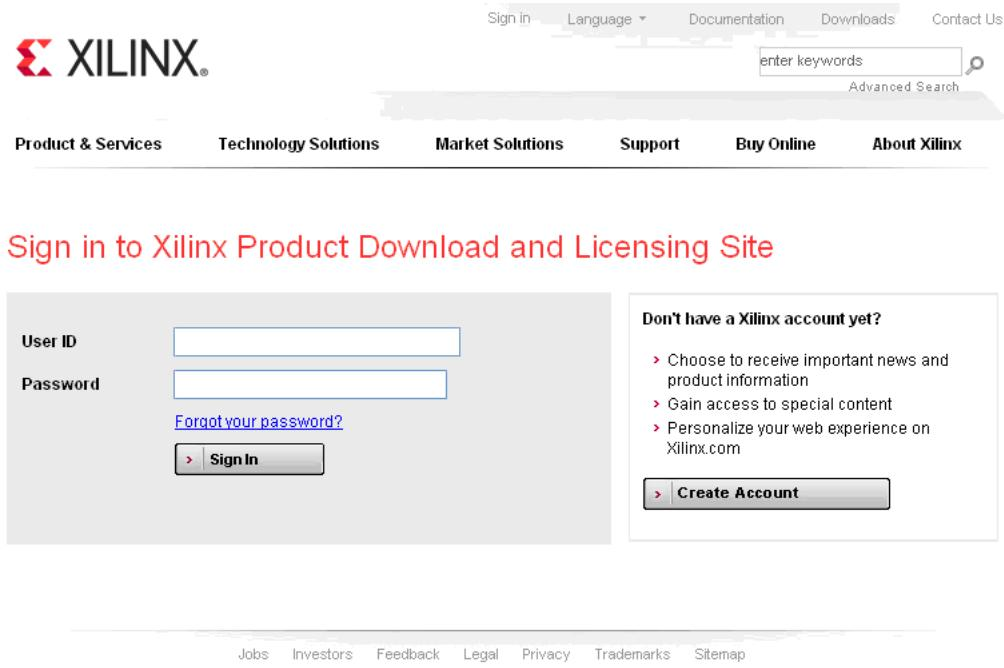

Figure 1-61: Product Download and Licensing Site
1. Visit the Xilinx product download and licensing site (<http://www.xilinx.com/getproduct>) and use your Xilinx account to sign in (Figure 1-61)